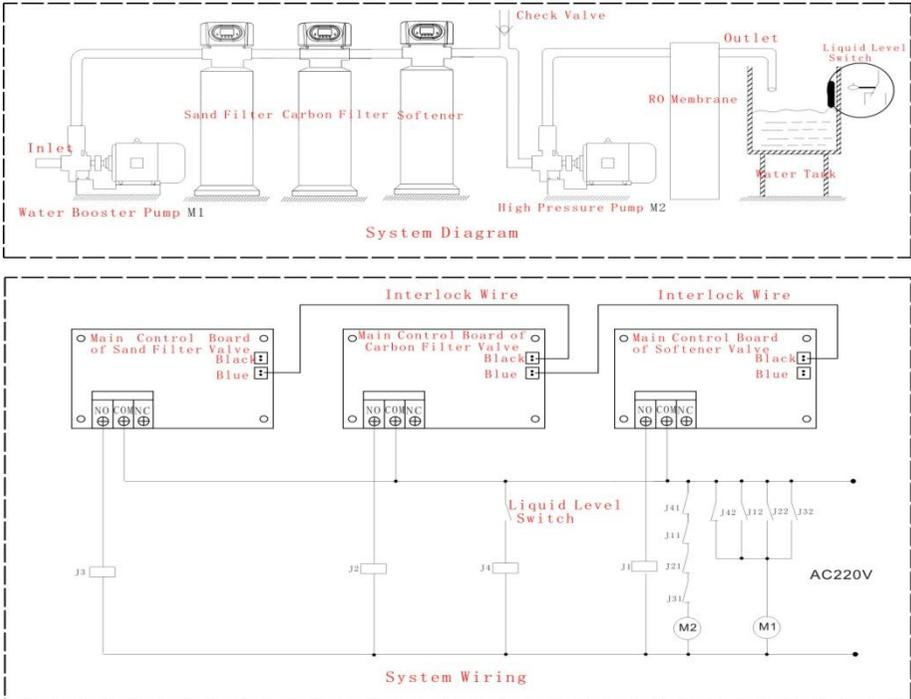

Figure 3-13
**Instruction:** In pre-treatment + RO system, the liquid level switch in water tank and control valve together control pump open or close. The wiring refers to Figure 3-13.